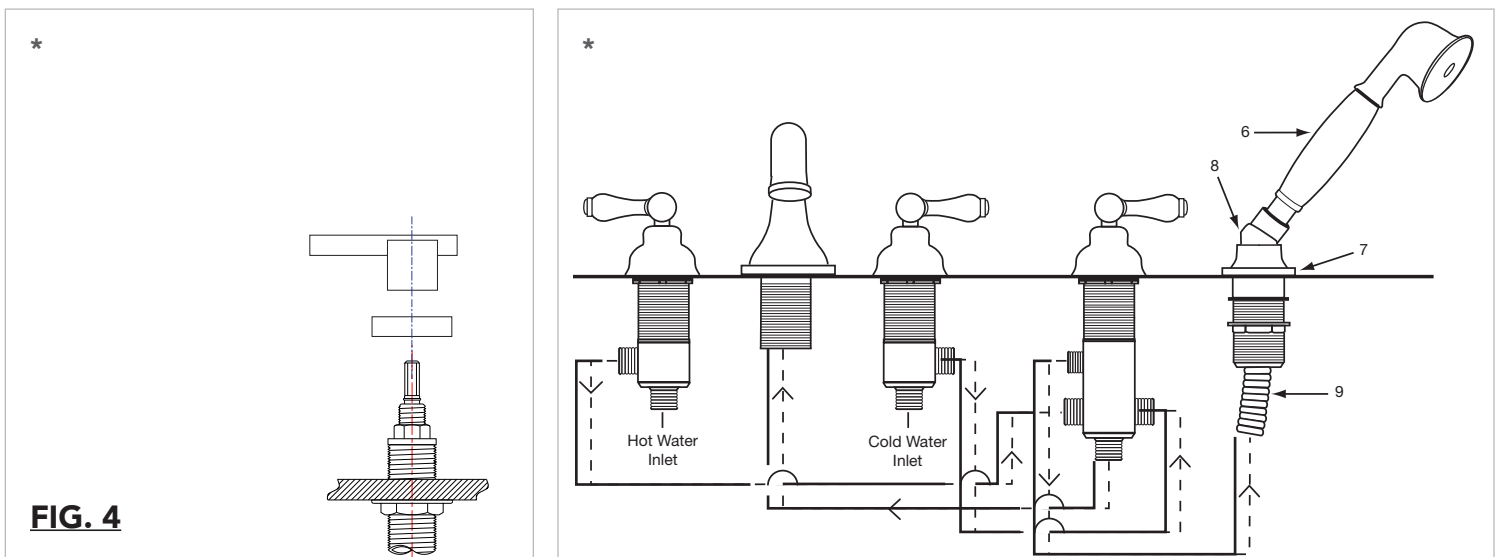

FIG. 4
1. Remove trim and smaller top valve nut (1) from valve (not used)
3. Thread bottom valve nut (2) all the way down on diverter valve (5).
5. Screw escutcheon onto valve until top of stem (3) is approximately 2¼" above top of finished deck as shown. This is important as it controls the space between handle and escutcheon. Hand tighten bottom valve nut (2).
7. Install handle. **See Fig. 4**
8. Secure bottom valve nut (2). Connect coupling to diverter, hose to coupling, and backflow preventer to hose.
9. Install handshower deck mount sleeve (7). Slide hose through the sleeve. Connect handshower hose to backflow preventer.
1. Handle trim **4404** and **5504** install with set screw into side of valve shaft **Fig.4**